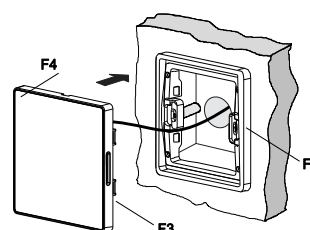

Figure 6: Mounting of the main module
- Slip the wall switch's main module (F3) together with (F4) onto the mounting frame and firmly press them together (see figure 6).